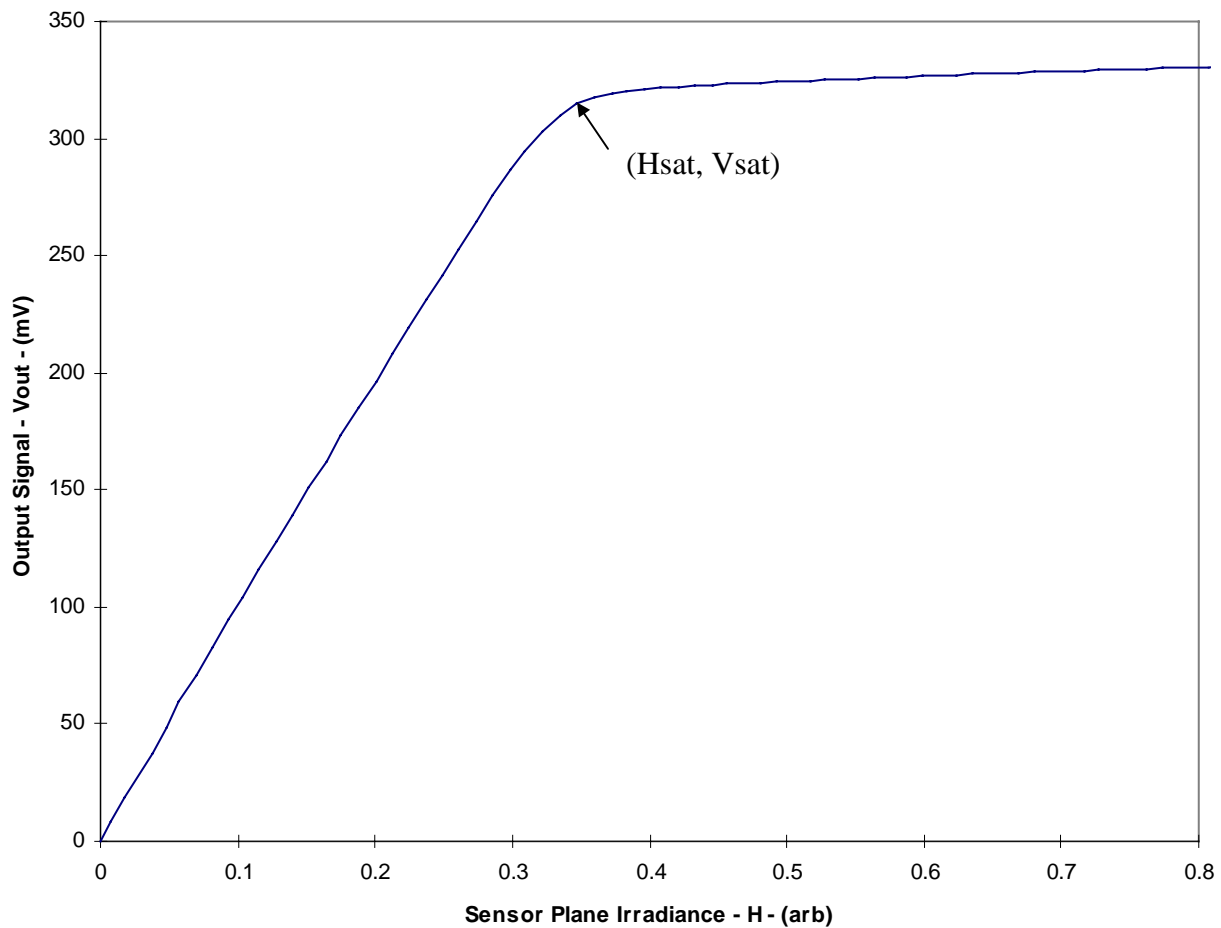

Figure 20 Typical KAI-0311Series Photoresponse
6. Xab represents the increase above the saturation-irradiance level (Hsat) that the device can be exposed to before blooming of the vertical shift register will occur. It should also be noted that Vout rises above Vsat for irradiance levels above Hsat, as shown in Figure 20.